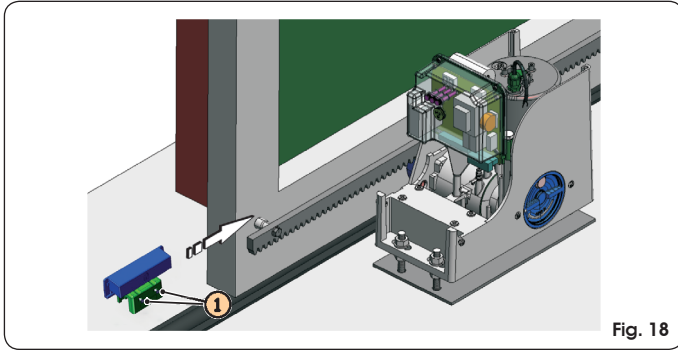

Fig. 18
- ④ Slide the magnet nearest to the operator on the rack, in the direction of the motor - see figure 18. As soon as the LED on the board, referring to the travel limit stop, goes OFF, take the magnet forward by another 10 mm and fasten it with the appropriate screws (Fig. 18 ref. ①).
- ⑤ Do likewise for the other magnet.
- ⑥ Take the gate to about halfway of its travel and relock the system (see paragraph 9).